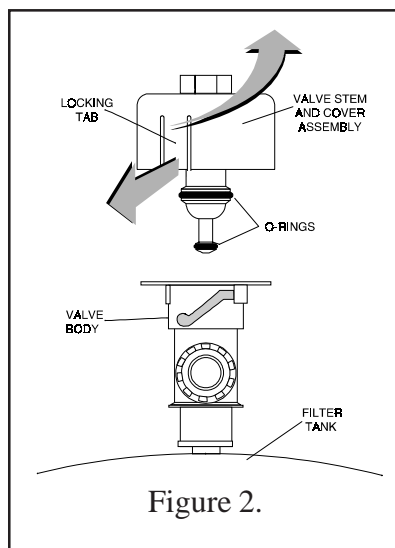

Figure 2.
3. With the relief valve attached to the filter tank, pull out the locking tabs and remove the valve stem and cover assembly with a counterclockwise and lifting motion, see Figure 2.